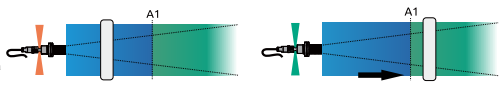

Figure 16 - Single trigger when target is removed
- When the moving distance (S) of the object is greater than the set distance (A1), the output signal switches. The working principle is shown in Figure 16. When operating, it is necessary to set a custom user range:  $A1 = S, A2 \rightarrow \infty$